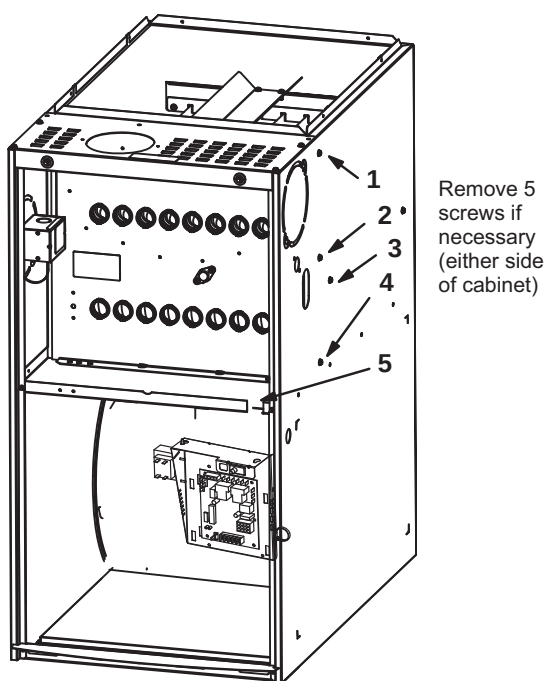

Figure 24.
B-Temperature Rise (Figure 24)
8. Remove heat exchanger. It may be necessary to spread cabinet side to allow more room. If so, remove five screws from the left side or right side of cabinet. See Figure 24.